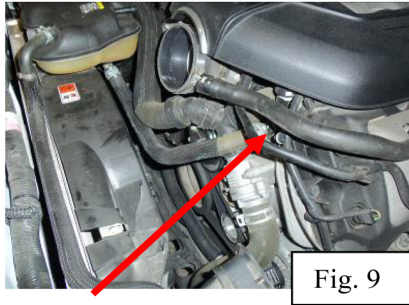

Fig. 9
9. Remove the lower surge tank hose from the engine block (Fig. 9).